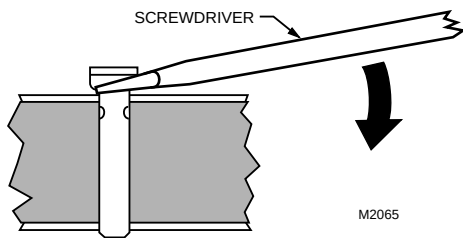

Fig. 7. Lifting range stop pin out of its slot.
3. Insert the range stop pin into the appropriate (cw or ccw) 45° or 60° slot. The range stop pin is clipped into its final position only after the pin passes through both actuator plates (see Fig. 6). The range stop pin should snap into position and not be removable manually (see Fig. 7).